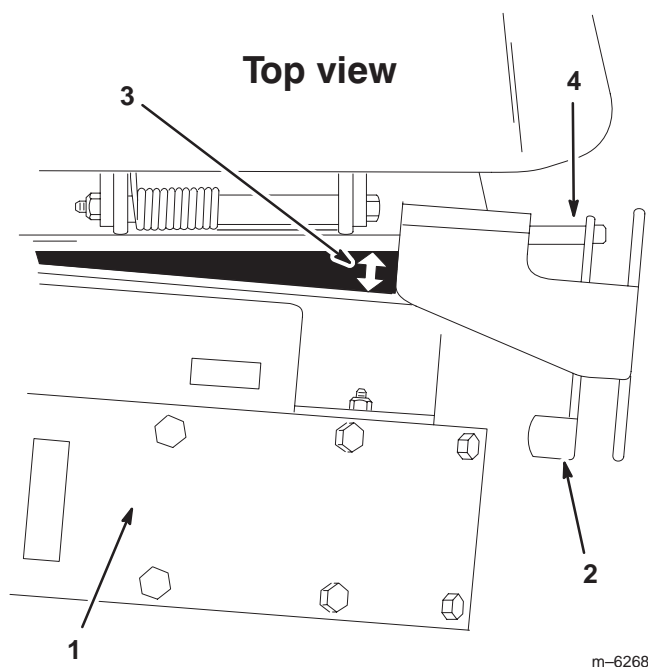

Figure 28
1. There must **not** be a gap between the mounting plate the the blower assembly (Fig. 28). If there is a gap, proceed to step 3 and shorten the latch.